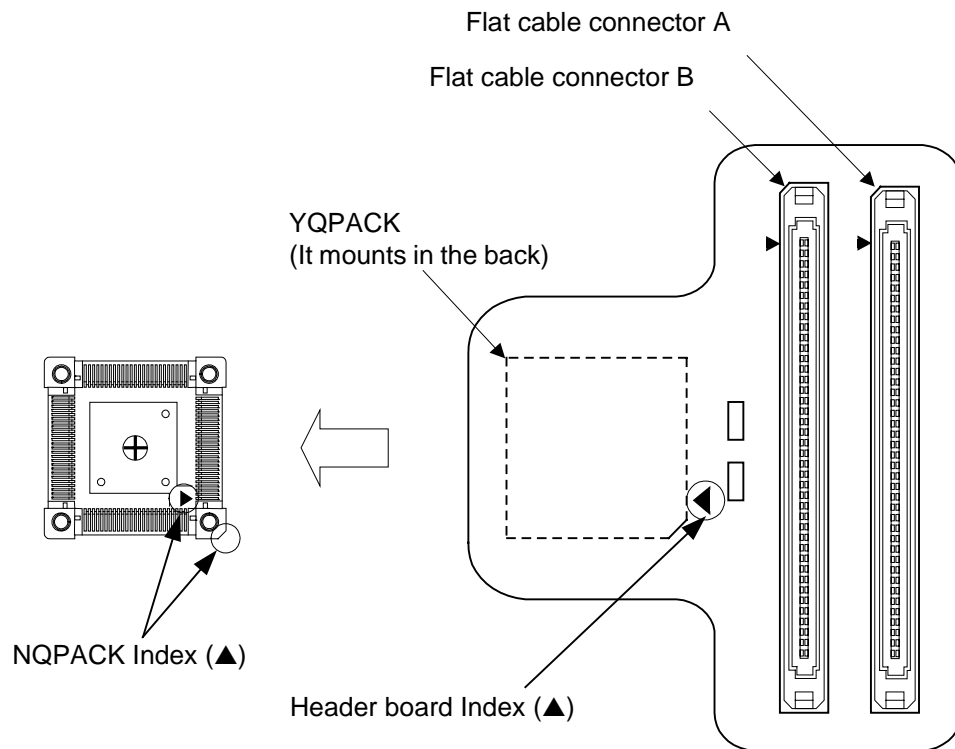

Figure 3 Index Position
1. To connect the header board to the user system, match the index mark (▲) on the NQPACK-mounted on the user system with the index mark (▲) on the header board and then insert it (See Figure 3) . The pin of YQPACK is thin and easy to bent. Insert NQPACK after confirm that the pin of YQPACK is not bent.